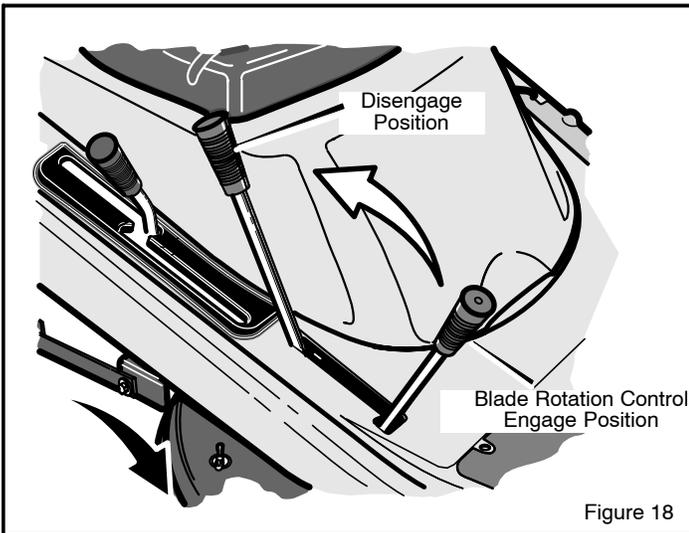

Figure 18
2. Move the **blade rotation control** to the **DISENGAGE position** (Figure 18).